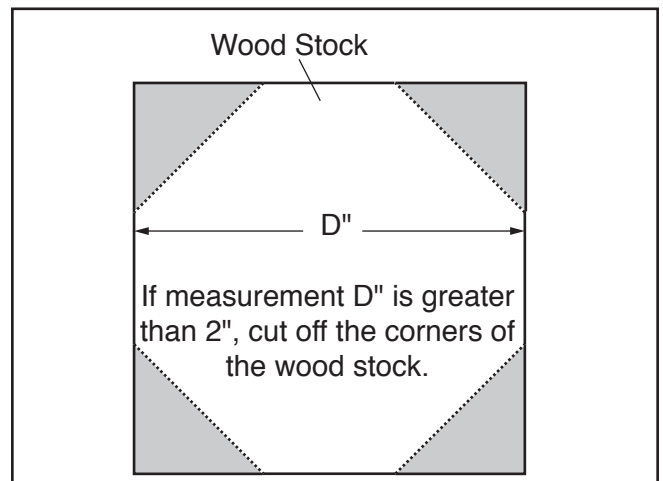

Figure 12. Cross-section of turning stock.
2. When turning stock with a diameter greater than 2", remove the corner length edges with a hand plane or similar operation as shown in Figure 12.